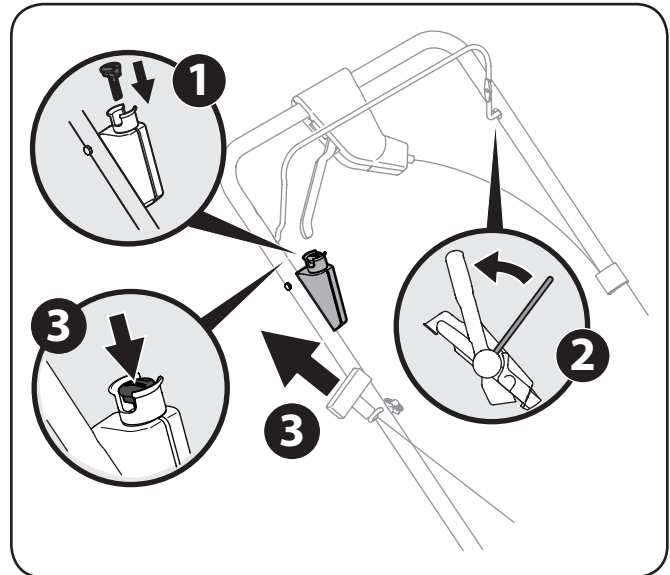

Figure 5-1
2. Standing behind the mower, squeeze the blade control against upper handle. See Figure 5-1.
3. **Recoil Start:** Holding these two handles together firmly, grasp recoil starter handle and pull rope out with a rapid, continuous, full arm stroke. See Figure 5-1. Keeping a firm grip on the starter handle, let the rope rewind slowly. Repeat until engine cranks. Let the rope rewind each time slowly.
Electric Start (If Equipped): Push the electric starter push key to start the engine. See Figure 5-1.